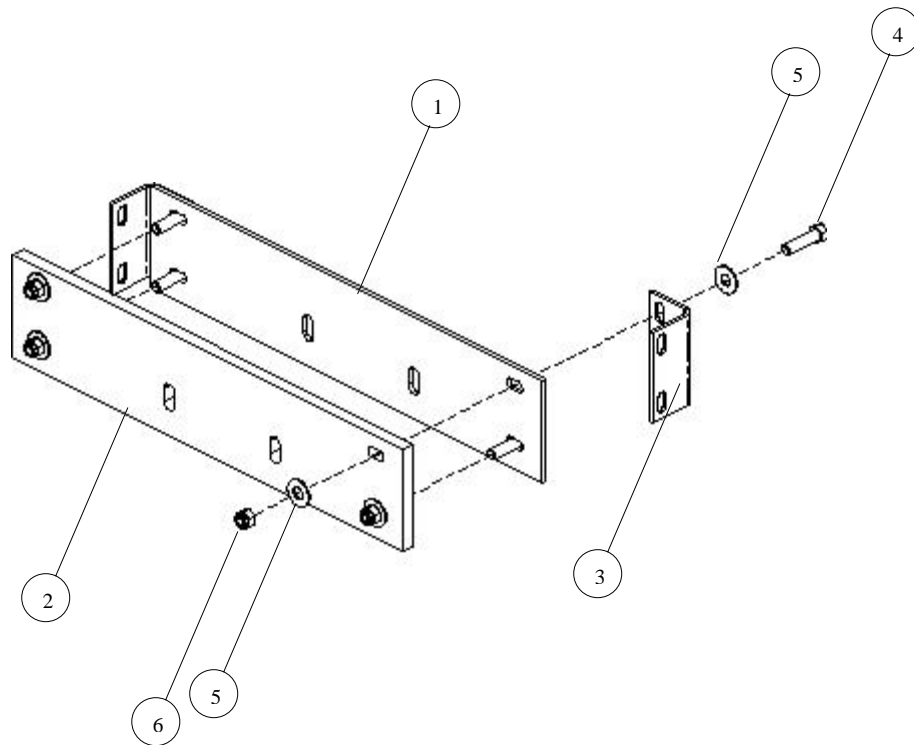

Figure 3-65. Left Step Panel Pre-Assembly.
1. Pre-assemble left step panels as follows (see Figure 3-65):
- a. Align left step panel (1) with left step panel (2) and install two armor step brackets (3) and secure each with two bolts (4), four flat washers (5), and two locknuts (6). Torque locknuts to 35 lb-ft.